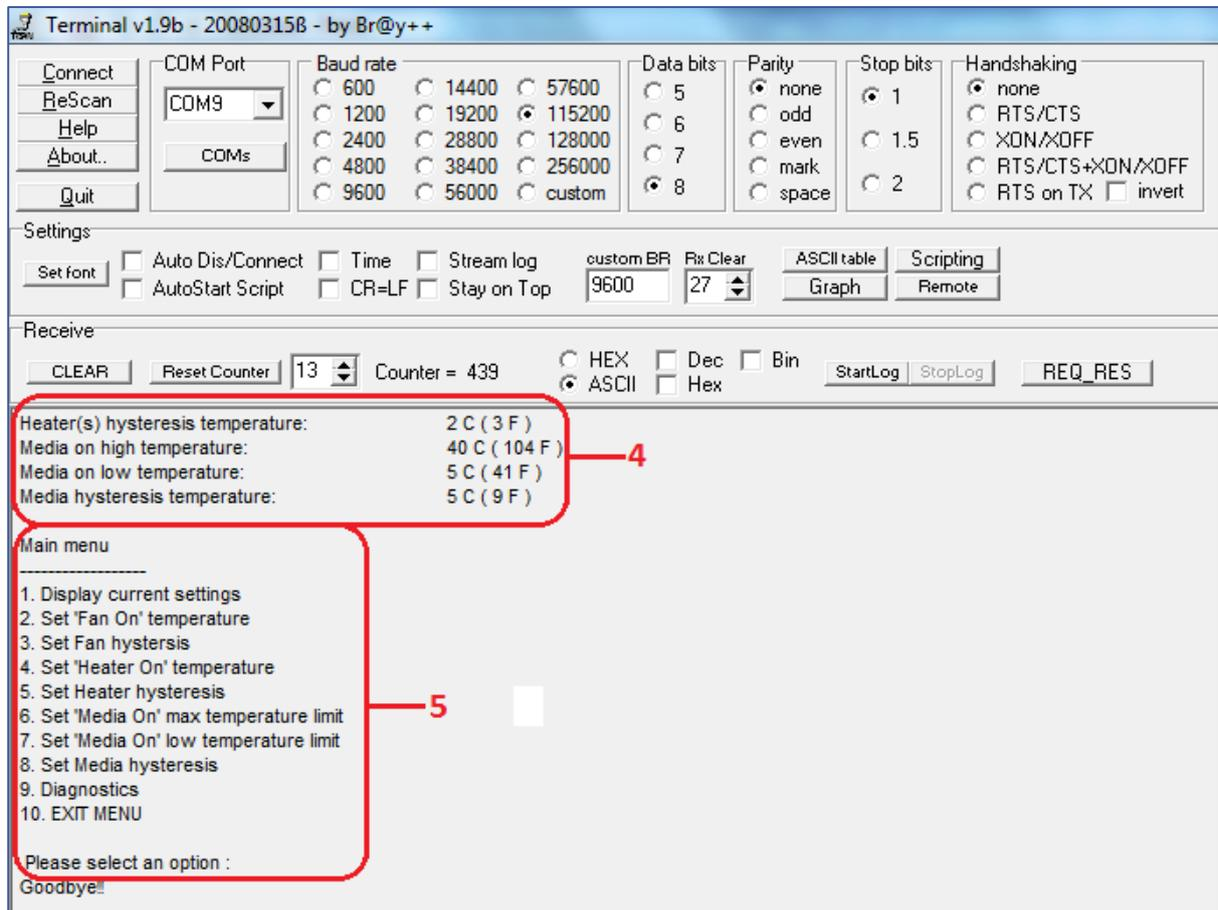

Figure 4
Step 11: Once connected, press 'enter' on the menu's window and the enclosures system will be switched off and a menu will be displayed on the terminal program in box 5, the current settings will be displayed for all the components just above the menu shown in figure 4 box 4 below.